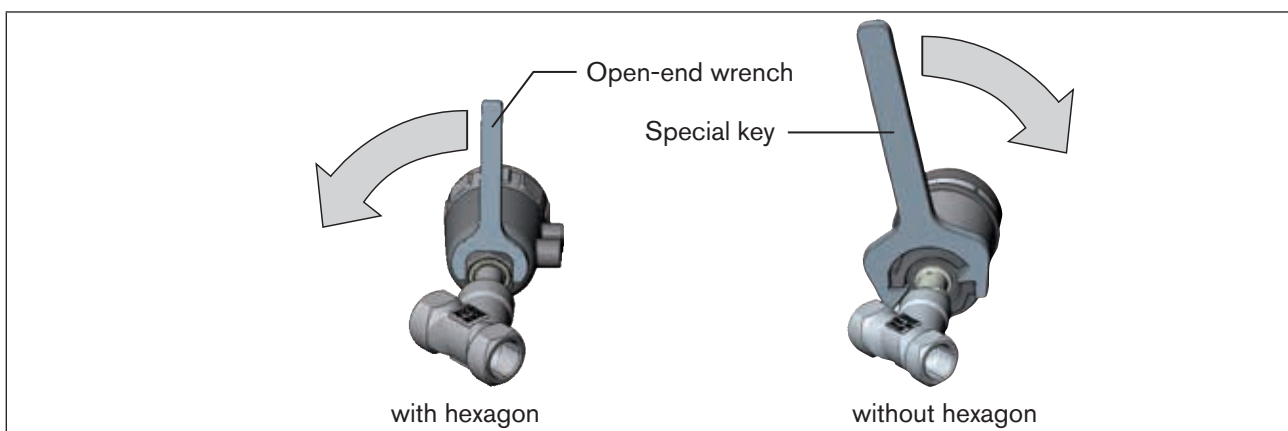

Figure 17: Rotating with special key / open-end wrench
▶ Rotate the actuator module **in the specified direction only** (see "Figure 17").